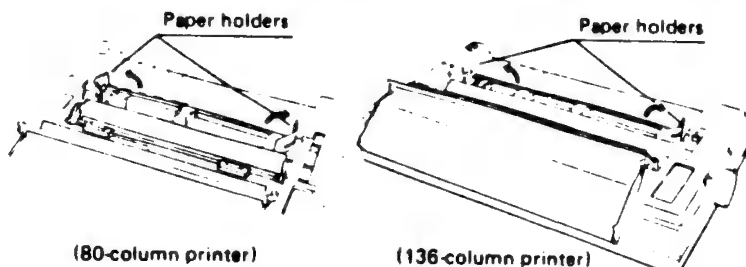

Figure 2-20 Opening the Tractor Paper Holders
8. Open the paper holders on both tractors, as shown in Figure 2-20.